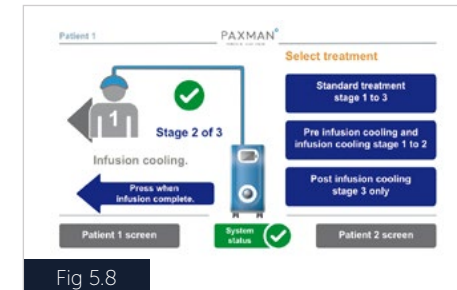

Fig 5.8
- The User should press the **Continue** button and commence with the chemotherapy infusion. The screen will now show (Fig 5.8).
- When all the chemotherapy agents have been infused, the infusion complete button should be pressed (Fig 5.8).